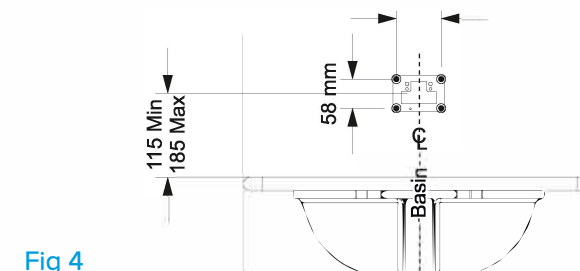

Fig 4
2. Using the wall mounting plate as a template secure four wall anchors or suitable equivalent into the wall substrate. Secure the mounting plate into position ensuring that it is centralised to the basin and level (see figure 4 & 5).